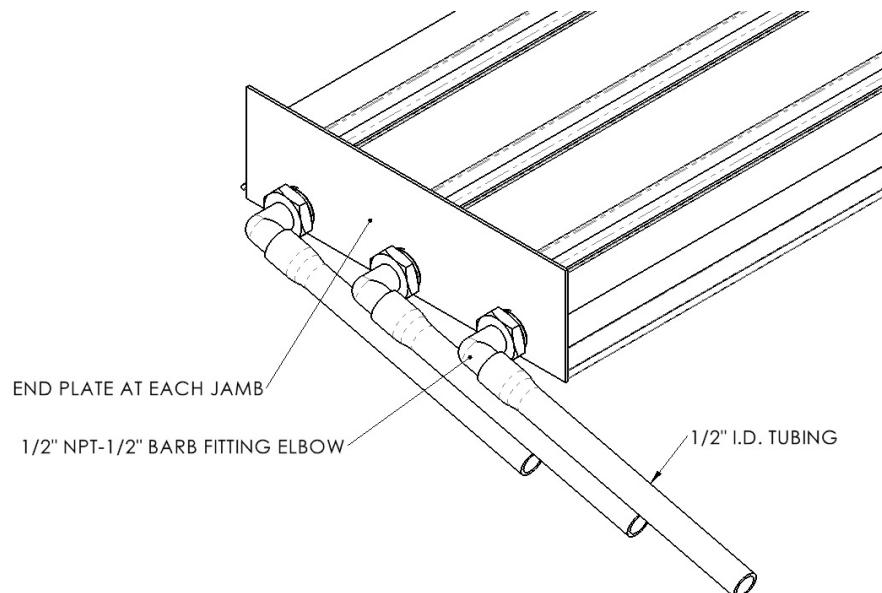

Figure 5
- Side Drain Fitting Sill (See Figure 5)
Screw the $\frac{1}{2}$ " NPT pipe to $\frac{1}{2}$ " hose barb fittings using tread sealant or Teflon tape to the ends of each track. Push fully the $\frac{1}{2}$ " minimum inside diameter hoses onto the barbed fittings and route to an appropriate drainage location, ensuring that the hoses have a continuous downward slope of at least $\frac{1}{4}$ " per foot. (See Figure 5). Proceed to step 10.